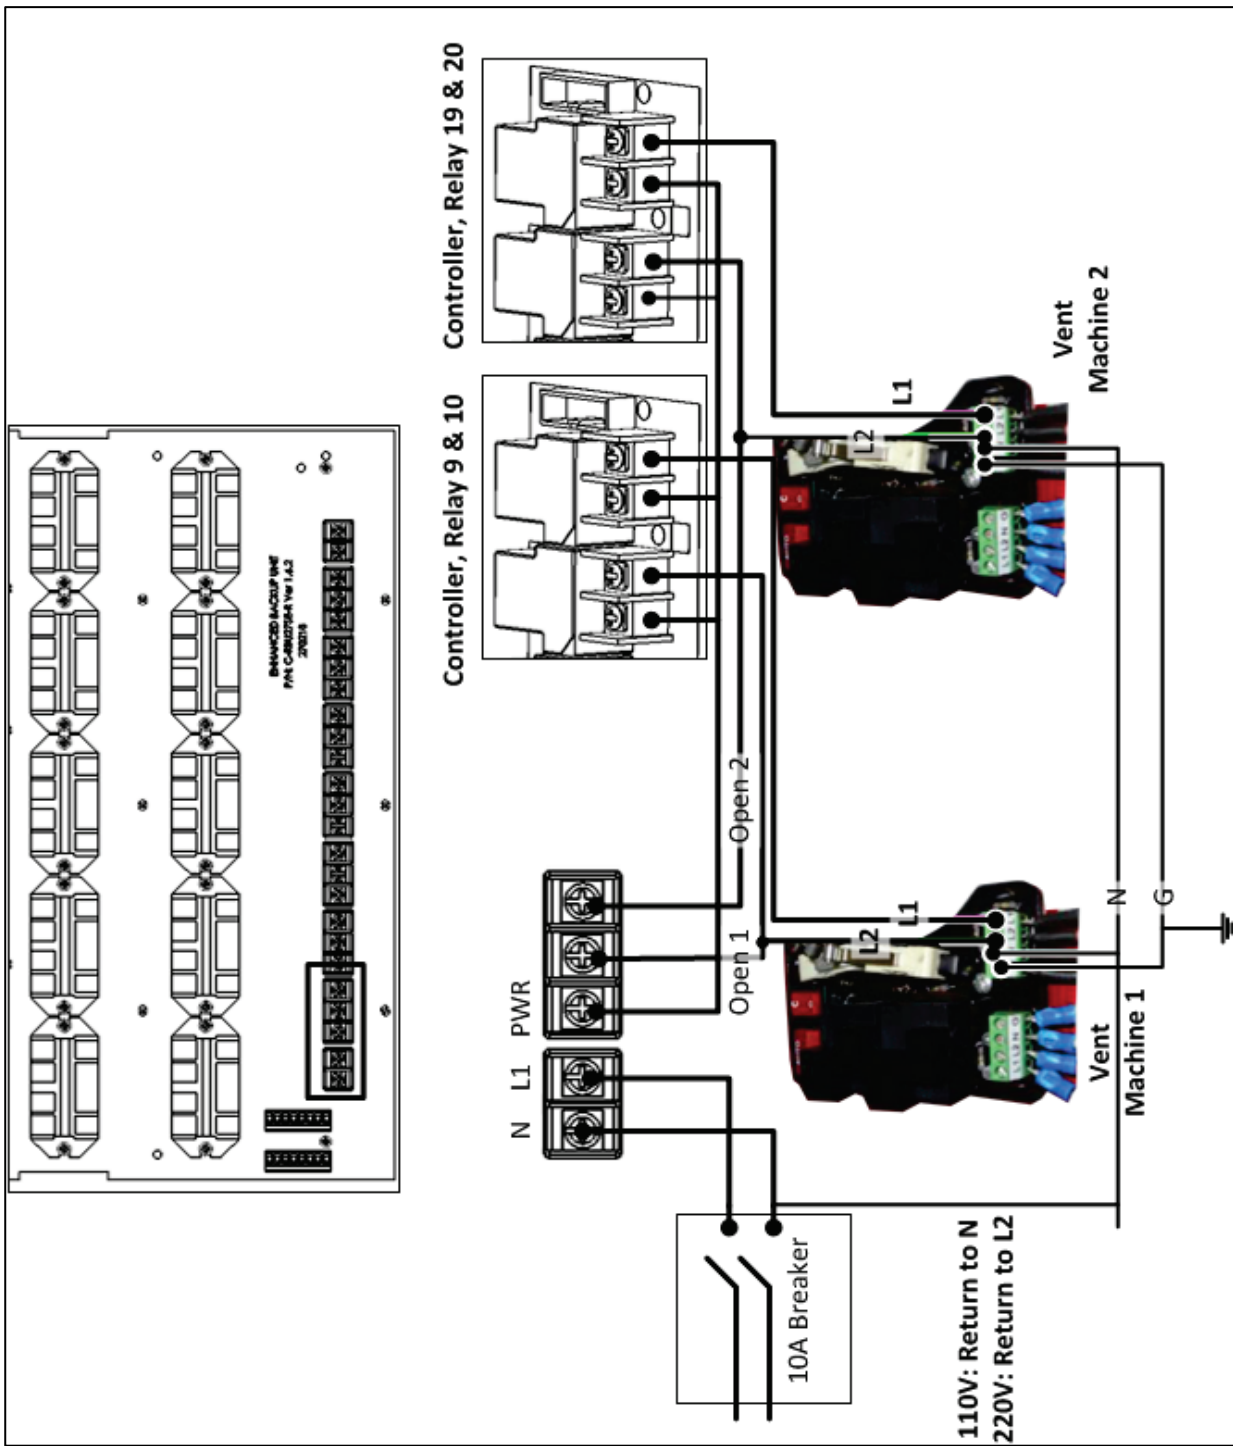

Figure 5: Vent Machine Wiring
2. Connect the heater to Relays K24 and K25, fans to Relays K16 through K23, and cool pads to K26 and K27. Figure 14 displays the relay numbers. See Figure 5.
- Figure 5: Relay Connections to Controller – Section 3